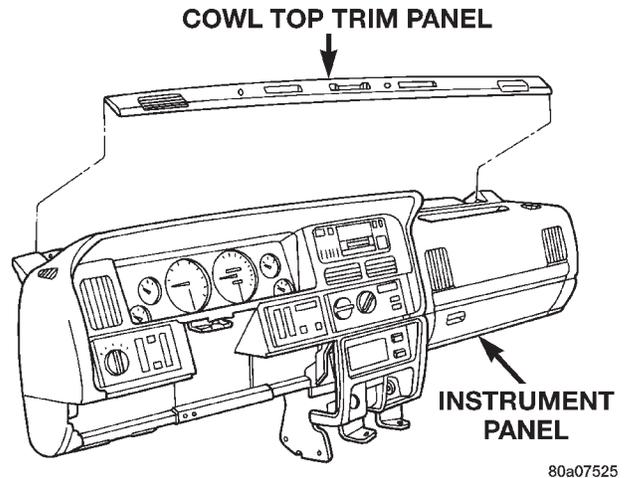

Fig. 17 Cowl Top Trim Remove/Install
- (1) Disconnect and isolate the battery negative cable.
- (2) Using a trim stick or another suitable wide flat-bladed tool, gently pry the cowl top trim panel off of the instrument panel top pad (Fig. 17).